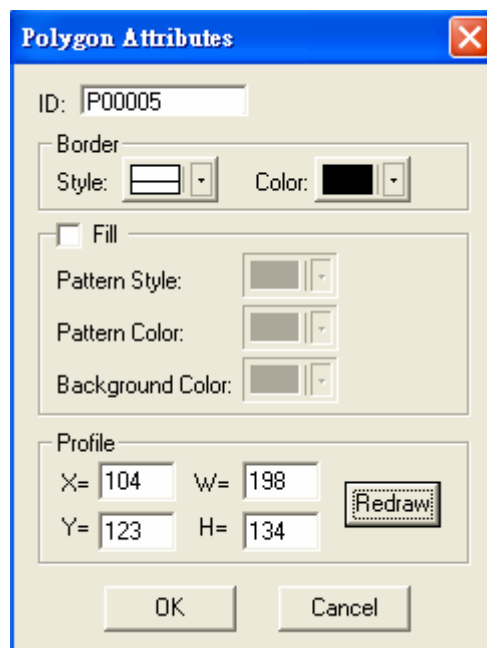

Figure 82. The [Polygon Attributes] Dialog box
The [Static Text] provides users with the choices of text, font, color, reading order, alignment and frame/edge. Double-click on the object, the [Static Text] dialog box as in Figure 82 will be appeared on the screen.
- [Text] Tab: Enter text on the [Text] block. There are sixteen types of fonts in all for users to specify as Figure 82. A user can specify the font, sixteen types in all. For the properties which are not explained in this section, please refer to the Section [Font Library].